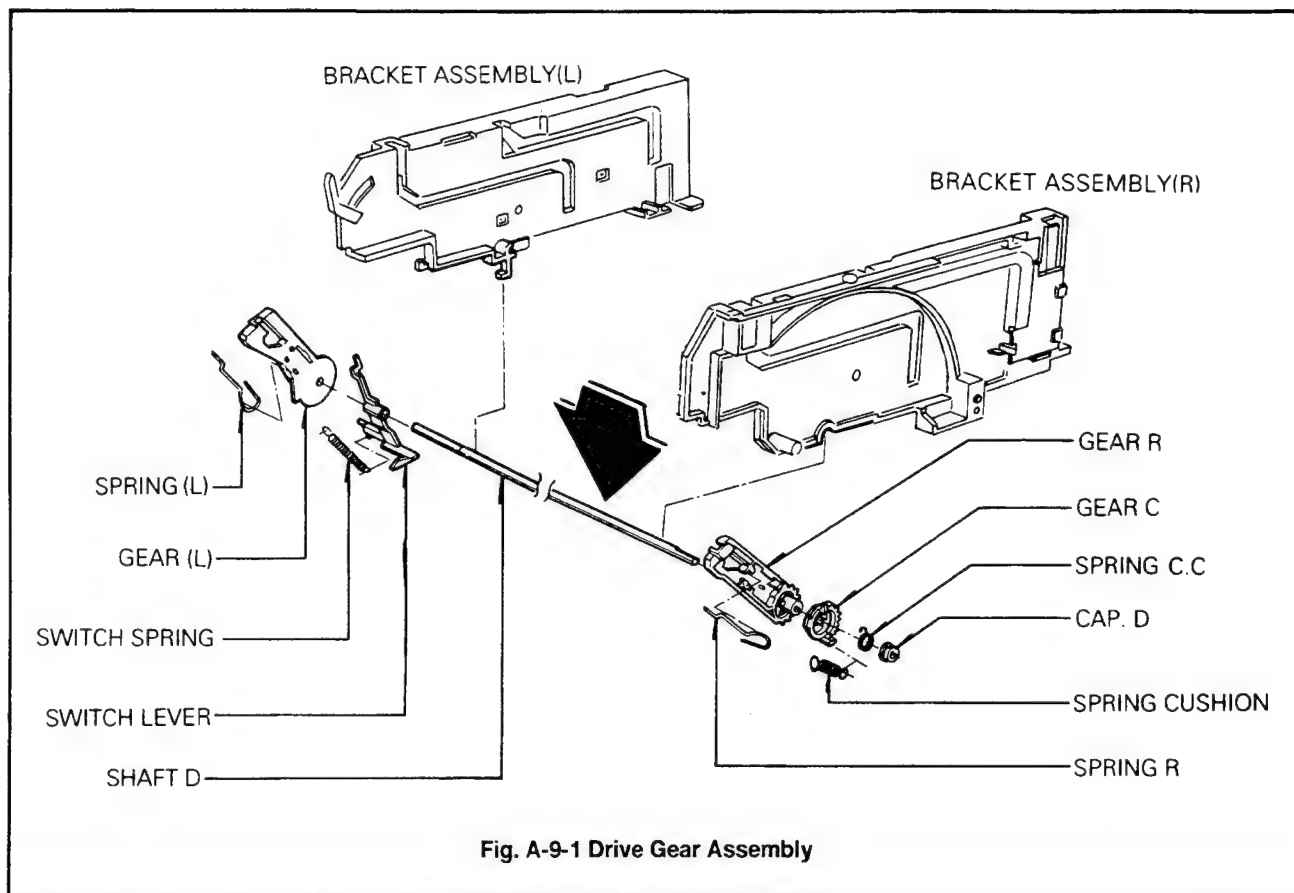

Fig. A-9-1 Drive Gear Assembly
### 9-1. Drive Gear Assembly(Fig. A-9-1)
### 9-2. Cushion Spring(Fig. A-9-1)
### 9-3. Cap-D(Fig. A-9-1)
### 9-4. Spring C.C(Fig. A-9-1)
### 9-5. Gear C(Fig. A-9-1)
**9-6. Gear R(Fig. A-9-1)**
- 1) When reassembling, be certain Spring R in the part(A) of Gear R.
**9-8. Gear L.(Fig. A-9-1)**
**9-10. Switch Lever(Fig. A-9-1)**